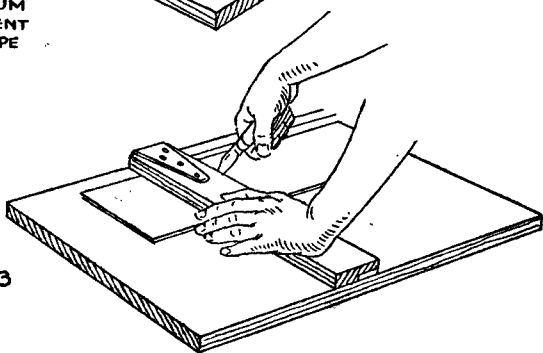

FIG. 13
*Cutting Sheet Aluminum:* A bending jig of this type also can be used for cutting aluminum to the desired width and length. As shown in Fig. 13, simply place the sheet of metal in the jig so that the required amount projects above the arm and then, using a knife or a sharpened nail as before, scribe a deep line along the upper edge of the arm. Go over the cut several times. Then remove the sheet, turn it over, replace it under the arm in exactly the same position, and repeat the scribing process. If the scribed lines have been cut deep, bending the sheet up will break it in two. As a finishing touch, use a file or a sharp knife to clean up any rough edges that may result.